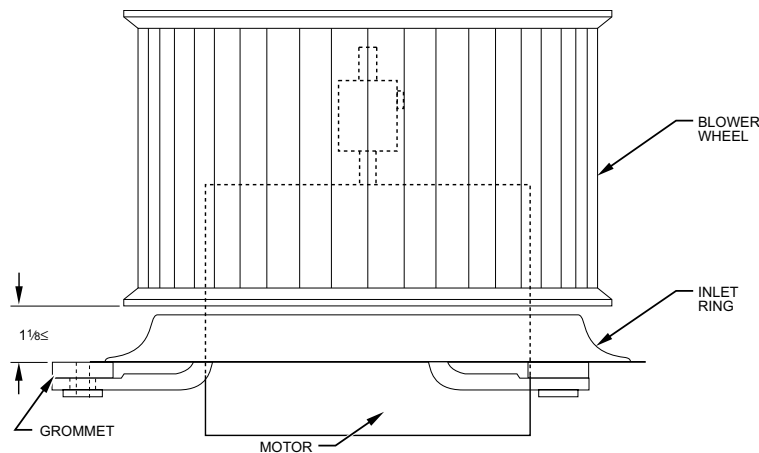

Fig. 23 – Motor, Inlet Ring, and Blower Wheel Assembly
**NOTE:** If previous shaft was not marked or if replacing previous motor, set blower wheel position by sliding blower wheel along motor shaft to 1-1/8-in. above rubber grommets (Fig. 23).